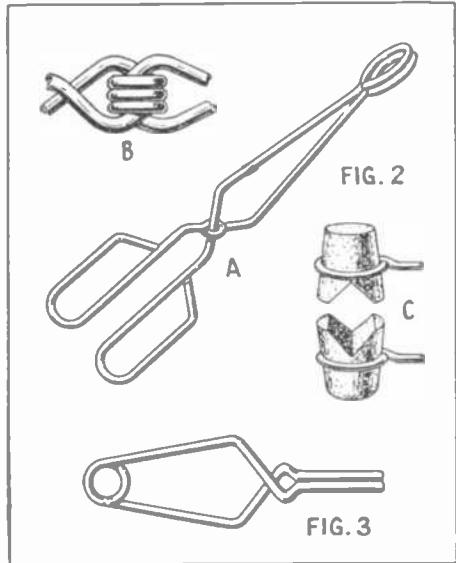
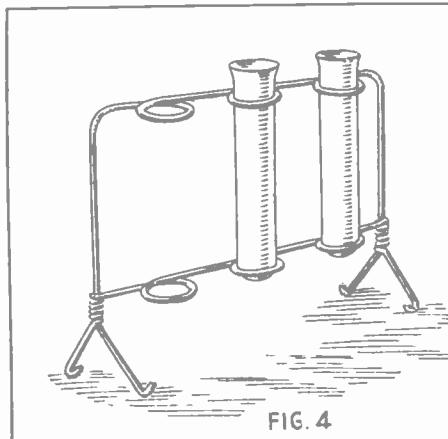

FIG. 3
FIG. 4
In Fig. 2 is shown a convenient tongs, made of wire, whose pivoted joint may be constructed as shown at (B). By introducing corks into the rings at the end of the jaws, (C) a test tube holder is produced. Fig. 3 is a spring pinch-cock. For its construction care must be taken to have spring tempered wire. Brass wire is excellent. Fig. 4 shows a very nice construction of a test tube rack made of wire. In Fig. 5 is shown another construction of pinch-cock and below are two stands, one a regular retort stand and the other a stand for holding the beak of the retort. It will be observed that both are adjustable for height.
Fig. 3 shows a spring clamp which may be used for holding small articles to be soldered or as a pinchcock.
Fig. 4 represents an easily constructed stand for test tubes. It may be used to accommodate any number of tubes and the legs may be screwed to a wooden base to make the stand more stable.